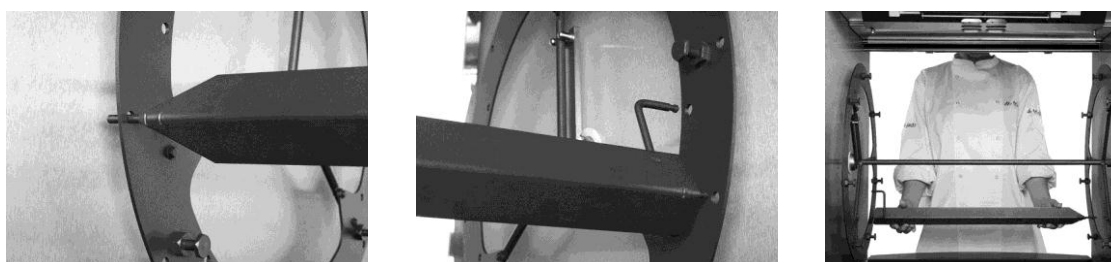

Figure 8
- Place the skewer into the small outside hole on the rotor end plate on your left (as you face the oven). The back of the V-shape spit should be pointing towards you (see Figure 8).